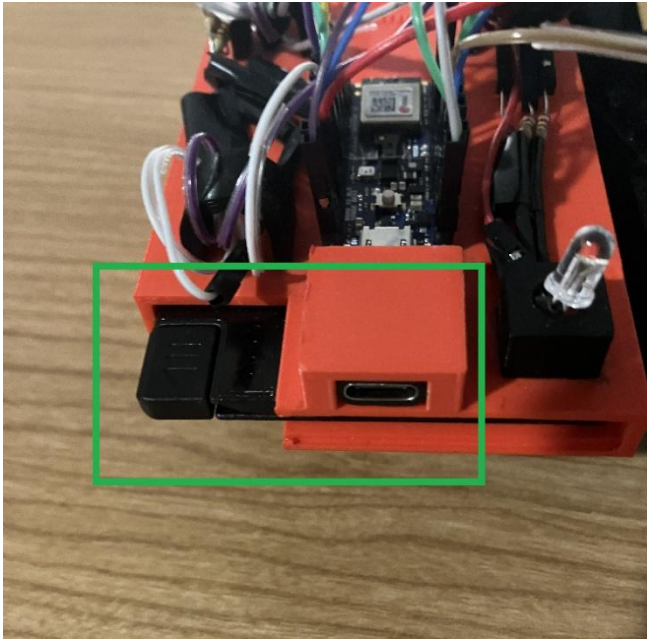

Figure 2: Controller Power Bank Output Location and Start Up Sequence
2. Plug in Controller's power cable. The Controller should be preloaded with the `glove_main_ble.ino` sketch. The Controller will enter a startup sequence before the LED displays Red. You will start in Power Off (LED = RED) mode (Refer to Figure 2).